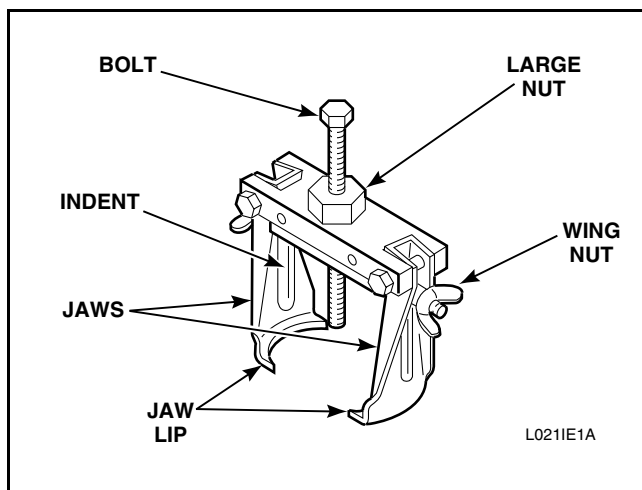

Figure 30
- e. Back bolt out of 294P4 Drive Bell Tool approximately three quarters of the way. Refer to *Figure 30*.